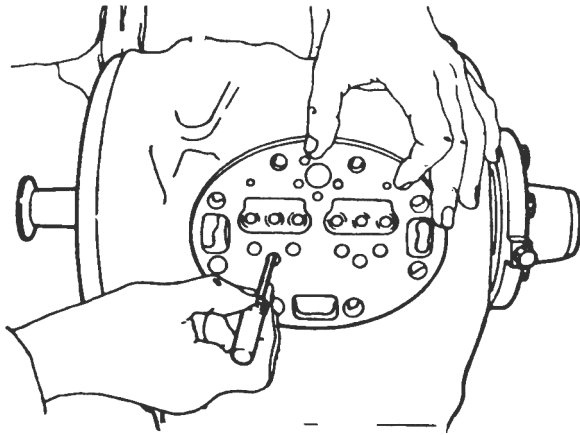

Figure 3-3. Checking Suction Valve
5. Using a small screwdriver, operate the suction valves to ensure that the valve tips are not being held by the valve plate gasket. (See Figure 3-3)